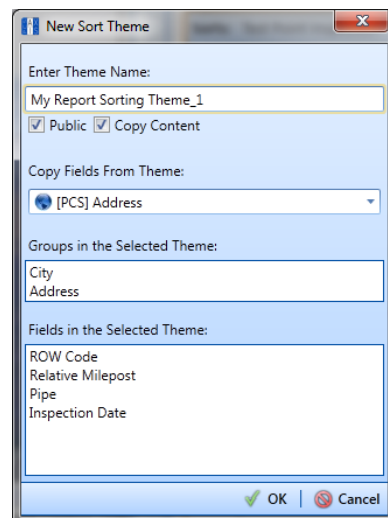

Figure 15-37. New Sort Layout
- 4 Click  **Add** to open the *New Sort Layout* dialog box (Figure 15-37).